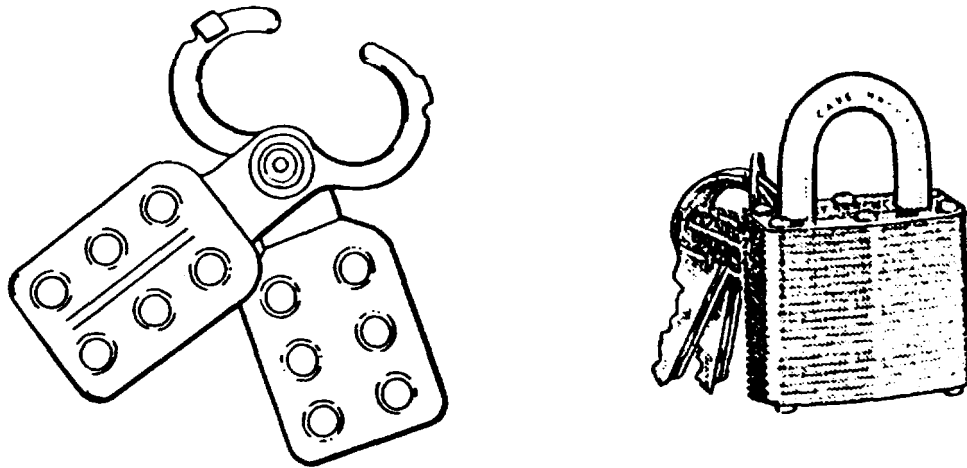
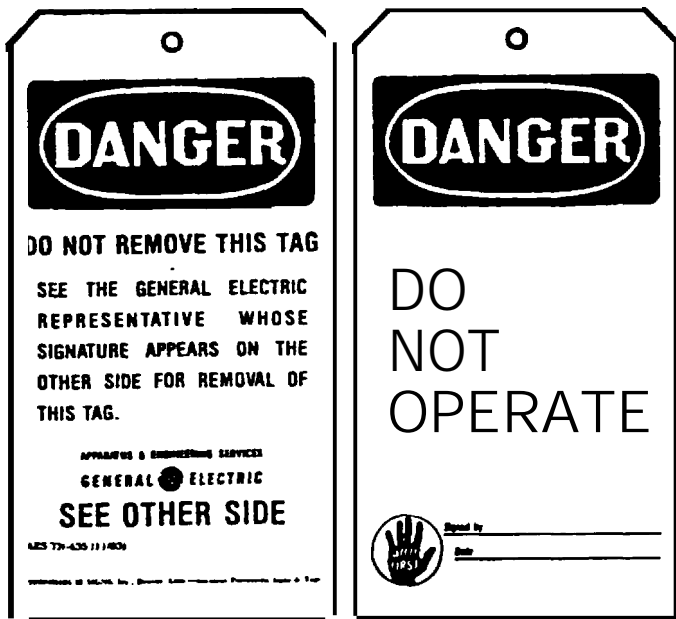

Figure 12-1. Padlock and multiple lock adapter.
Figure 12-2. Typical safety tag.
(1) Lock the equipment to prevent its use. Any energized equipment should be shut down by turning off power or closing valves to eliminate the possibility of electrocution, the inadvertent operation of machinery, or the release of hazardous materials.
(2) Identify the equipment to let other employees know it is not in service, when the lockout was initiated, and the purpose of the lockout.
(3) Clear the area to assure that other employees are a safe distance from the equipment before the lockout is tested.
(4) Test the equipment to verify that the equipment cannot be energized and that the lockout renders it inoperable. Before the test, check to be sure that all interlocks are engaged.
(5) Once the equipment is isolated, precautions must be taken to guard against accidental re-energization. Attach to the operating handles of the open disconnecting devices padlocks (fig 12-1) and/or approved red safety tags (fig 12-2). Red tags